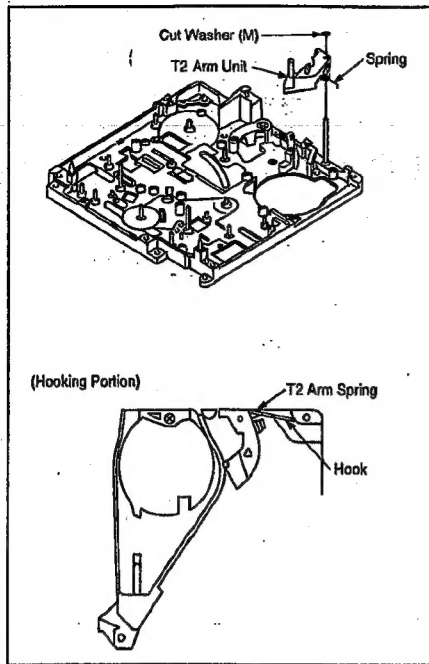

Fig. M21
10. Play & FF/REW Gear Fig. M21 Remove the Cut Washer (L) and Main Brake T Unit.